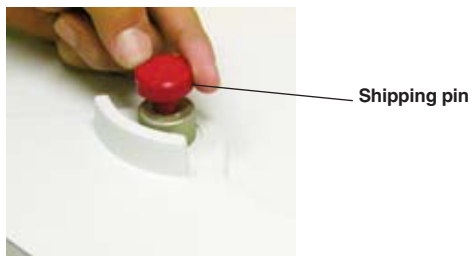

Fig. 10. Remove shipping pin.
3. Unscrew and remove the shipping pin (Figure 10).